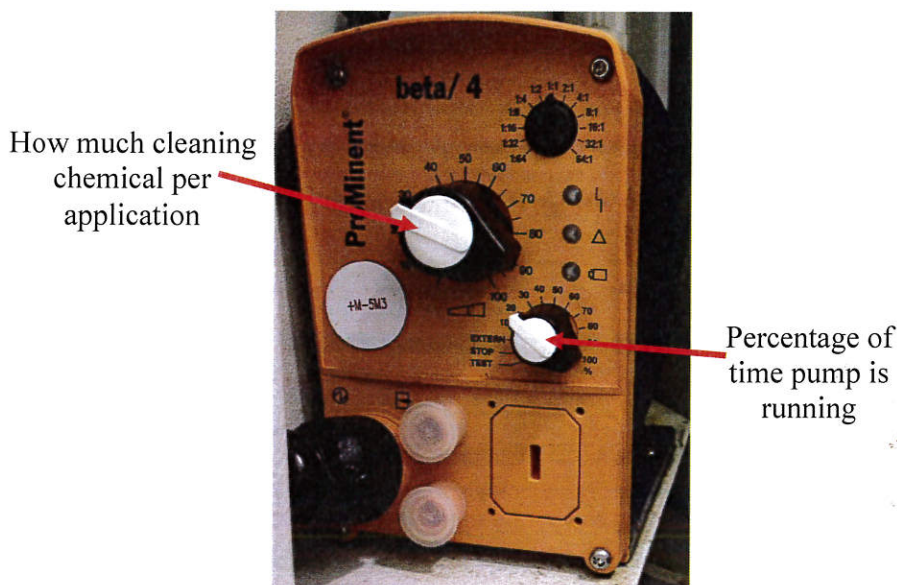

Figure 10: Adjustment of the dosing pump.
- 6.1.1.1. The Wash Solution requires checking 24 hours after either the cleaner chemical barrel has been changed or the dosing pump shown in Figure 10: has been adjusted.
- 6.4.1. **Adjust the Dosing Pump.** If it is found that the levels of the cleaning chemical require adjustment in the solution the both the amount of cleaning chemical and how often it is added to the Wash Tank Reservoir can be adjusted using the control panel shown in Figure 10: